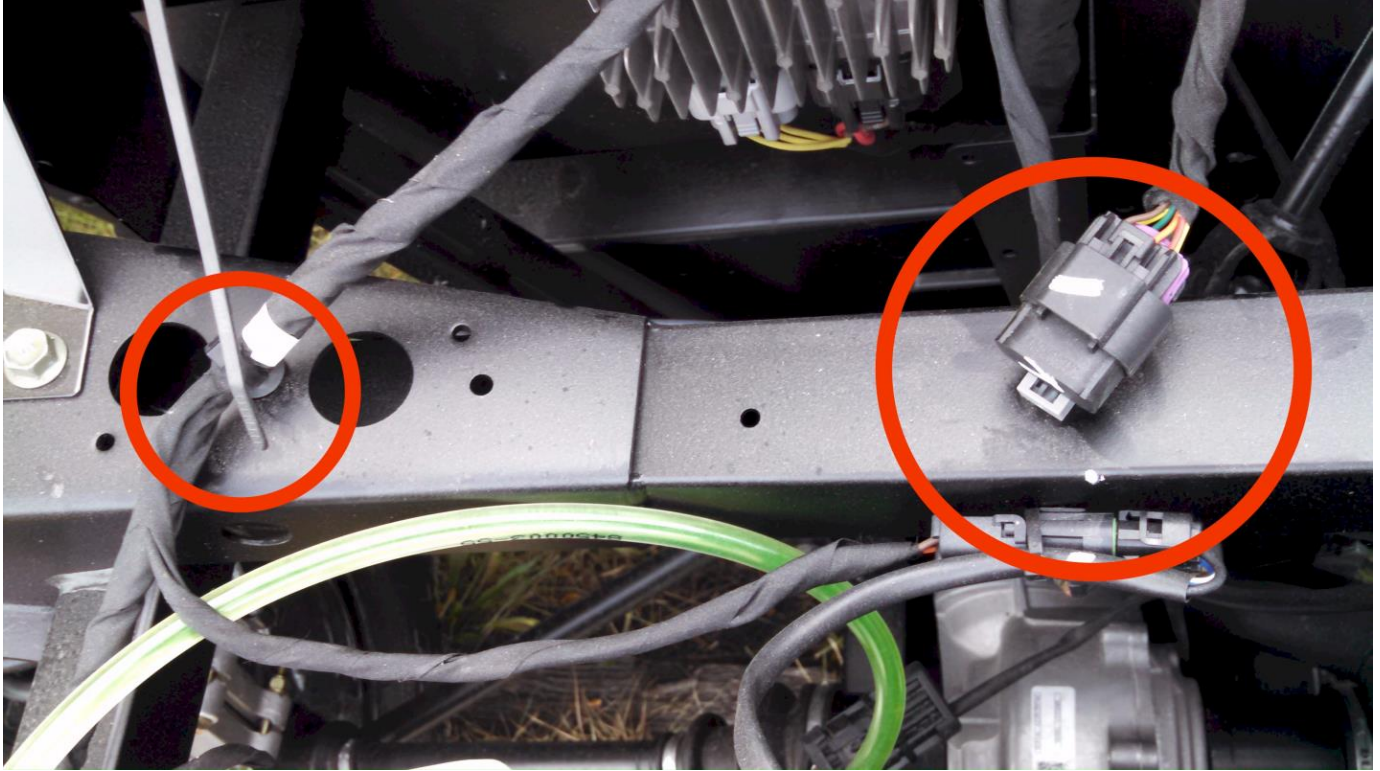

Figure 1
Remove loom plug and loom tie as shown in Figure 1. Cable tie plug to main loom.
Using the 3" intake grille choose a suitable location for the intake fitting, in the top of the dash cubby or lower dash panel (location will vary dependent on model of UTV). Suggested position for the Midsize shown in Intake Figure 1. Drill intake hole using supplied 3" hole saw. Fit 3" fitting and secure using four of supplied #8 x 1/2" screws. Clip into place 3" intake grille. Route the 3" duct hose from 3" intake grille fitting to Intake connector on heater. Stretch hose as you route the hose to ensure you have enough hose to complete the installation. Use the supplied 15" cable tie around the duct hose connection. Attach 3" duct hoses to the Intake connector on heater. Use the supplied 15" cable tie around the intake duct hose connection.
**Intake Figure 1**